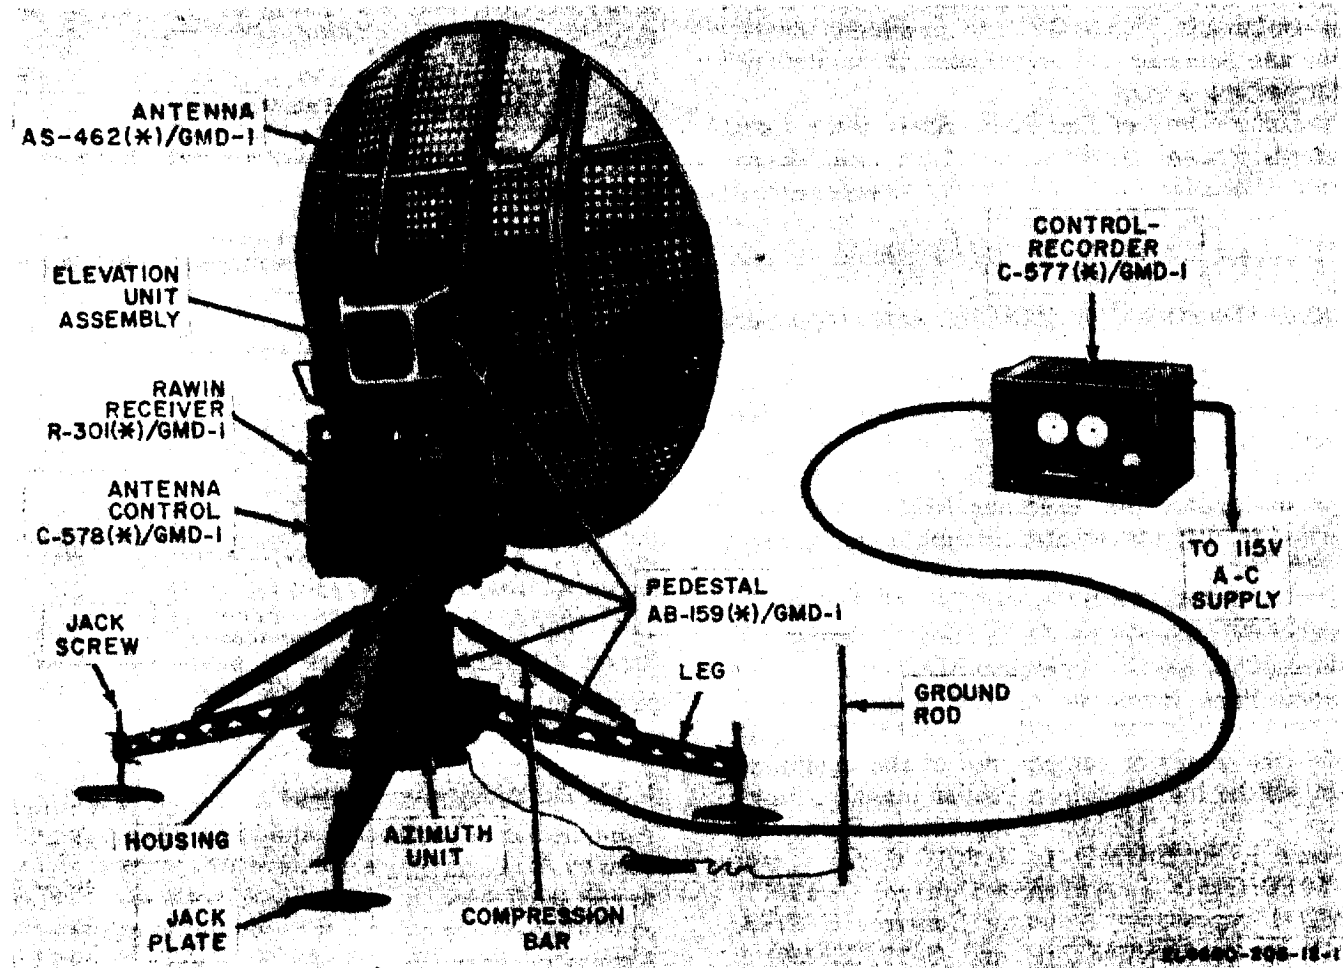

Figure 1-1. Rawin Set AN/GMD-1(*), operating components (excluding OL-192(*)/GMD-1).
a. General. This manual describes Rawin Set AN/GMD-1A, AN/GMD-1B*, AN/GMD-1B**, AN/GMD-1C, and AN/GMD-1D (fig. 1-1) and (para 1-11). In this manual you will find a description of the equipment, installation and operating instructions and operator and organizational maintenance information.
Rawin Set AN/GMD-1(*) (fig. 1-1) is a transportable radio direction finder. It is designed to track a balloon-borne radiosonde transmitter automatically. A radiosonde signal containing meteorological information in the form of amplitude or frequency modulation is received, amplified and detected by this